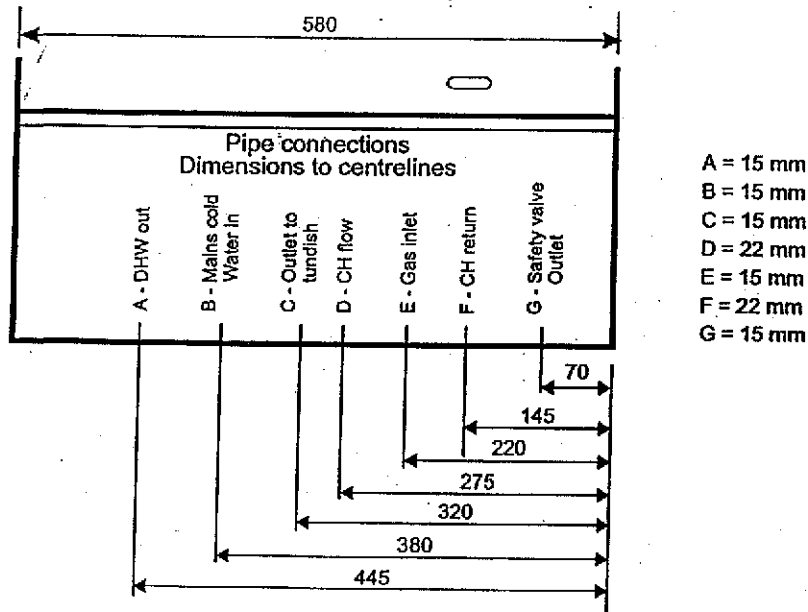

Fig. 2
2.9 WATER AND GAS CONNECTIONS (See Fig. 2)